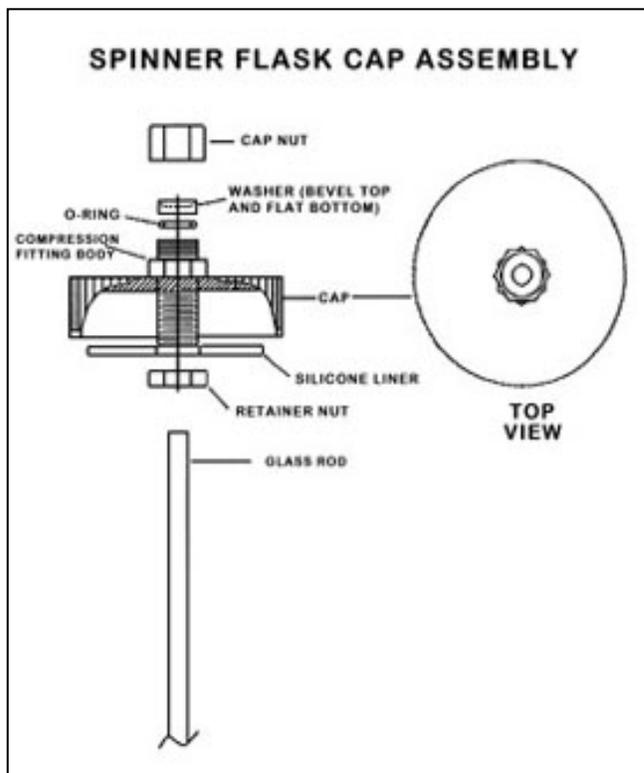

Figure 1: Spinner Flask Cap Assembly
- 9.1. Figure 1: Spinner Flask Cap Assembly (<http://www.bellcoglass.com/>)